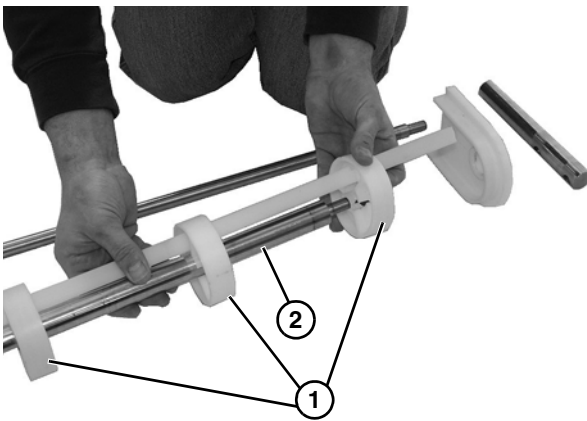

Figure 70
2. Slide all the idler pucks (Figure 70, item 1) along with alignment bar onto idler shaft (Figure 70, item 2).